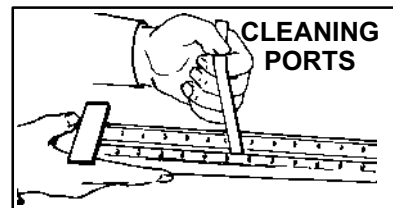

FIGURE 20
- 4- Clean burner ports by inserting a cleaning tool (made from a piece of sheet metal cut to fit the burner ports) and work in and out of each port. See figure 20.